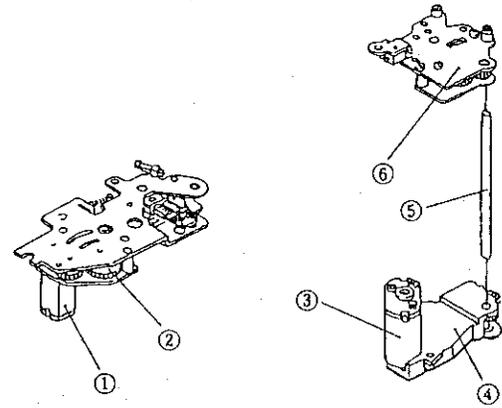

Fig.2 Winding and Rewind Units
**(2) Film Winding and Rewind Mechanisms**
Fig.2 shows the structure of the Winding and Rewind Mechanisms. For winding, the dedicated high-performance miniature motor ① incorporated in the spool drives the Winding Spool via the Gear Train ② having a proper reduction ratio.